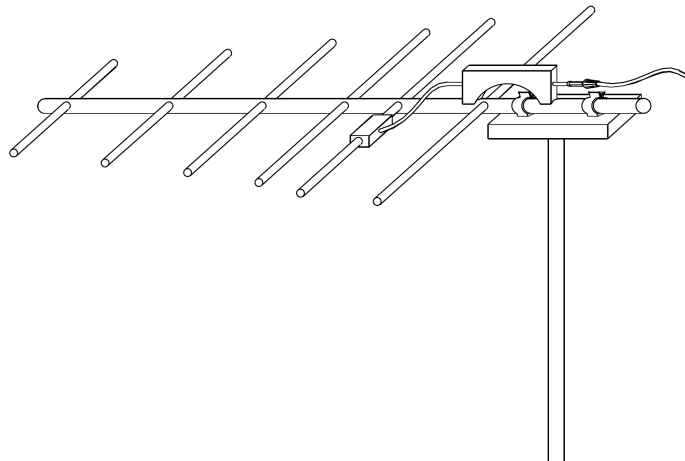

Figure 1-13. Set-up of the Yagi antenna horizontally polarized
- ☐ 2. Place the antenna mast with horizontal clips on the transmission support and clip the Yagi antenna onto it. Orient the elements so they are horizontal; the transmission antenna is **horizontally polarized**, as shown in Figure 1-13.